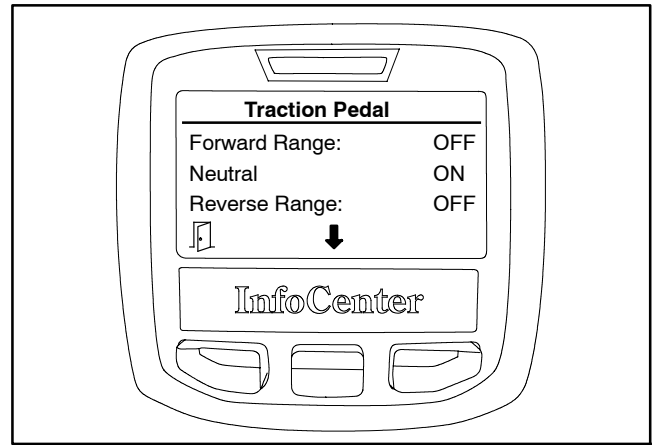

Figure 24
6. After any adjustment of the spring shaft and rod end bearing, use the InfoCenter Display Diagnostics menu (see InfoCenter Display in this chapter) to obtain and select the Traction Pedal menu item. Choose Outputs and the InfoCenter display will identify the traction pedal position (Fig. 24).